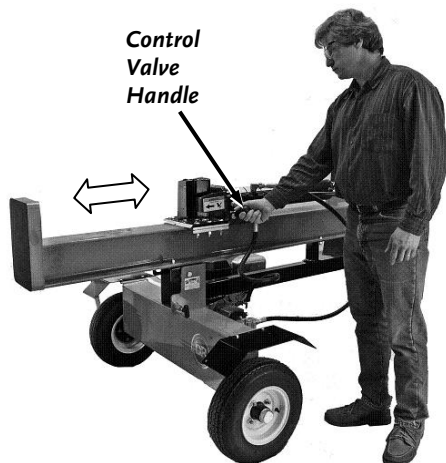

Figure 28
13. With the engine running, push the control valve handle to the retract position and retract the cylinder piston (Figure 28). The cylinder valve will automatically stop the cylinder from retracting when it reaches the end of its stroke. Cycle the wood splitter several times.